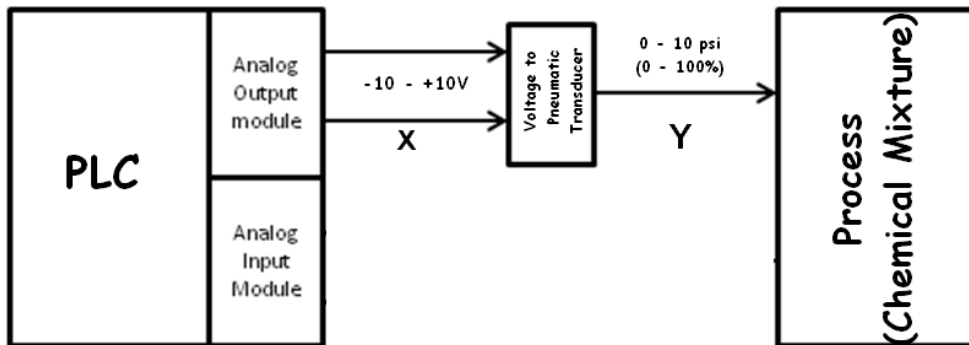

Figure 2: Data conversion of sensor and transducer
- a) Based on **Figure 2**, find the conversion equation X and Y (Draw the respective graph conversion and show all your calculation).